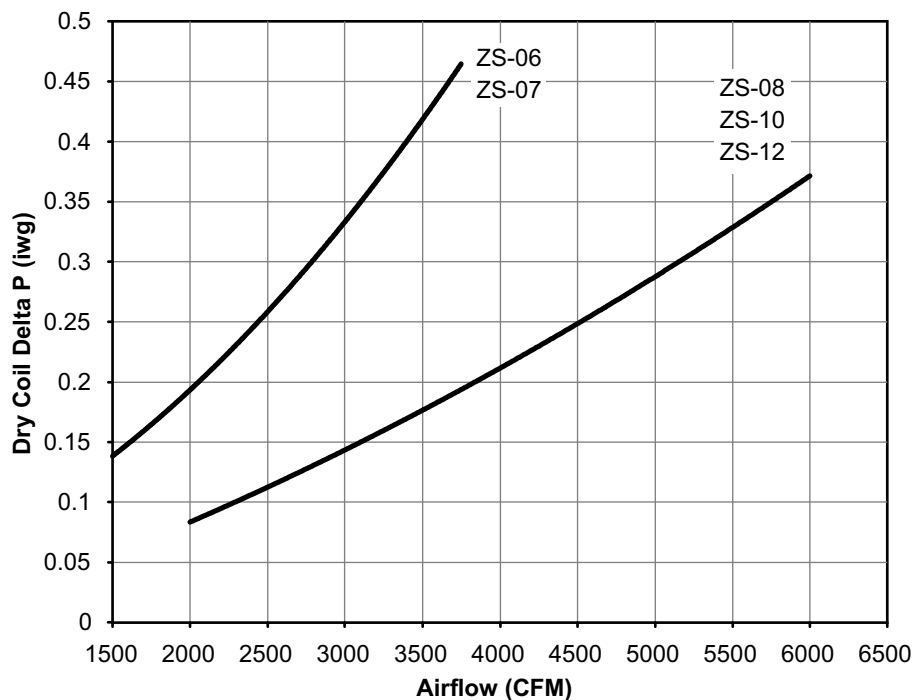

Figure 32: Dry Coil Delta P
4. The CFM through the unit can be determined from the pressure drop indicated by the manometer by referring to Figure 32. In order to obtain an accurate measurement, be certain that the air filters are clean.